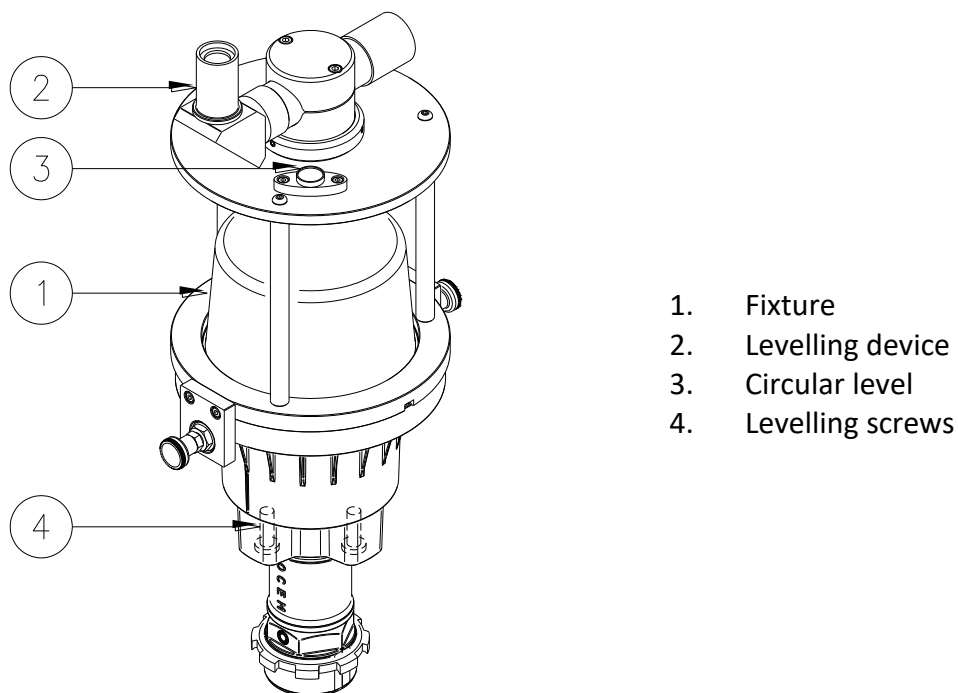

Figure 6 – Levelling Device
- Place on the lens locking ring the levelling device (P/N 332.4556 available on request) as shown in Figure 6. Levelling the light body by operating the four levelling screws until the bubble is centered